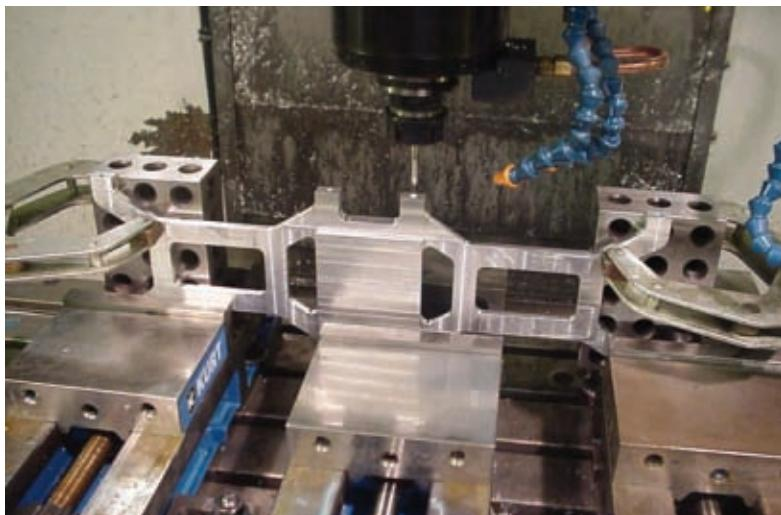

Figure 2-1 This part is being held for edge drilling with the aid of 2-4-6 blocks.
1. Hold parts securely and accurately. (see Fig. 2-1)